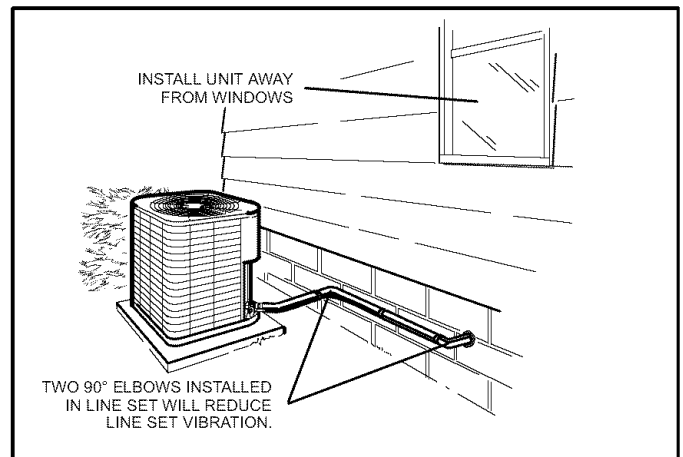

Figure 8. Outside Unit Placement
- When possible, do not install the unit directly outside a window. Glass has a very high level of sound transmission. For proper placement of unit in relation to a window see the provided illustration in figure 8.